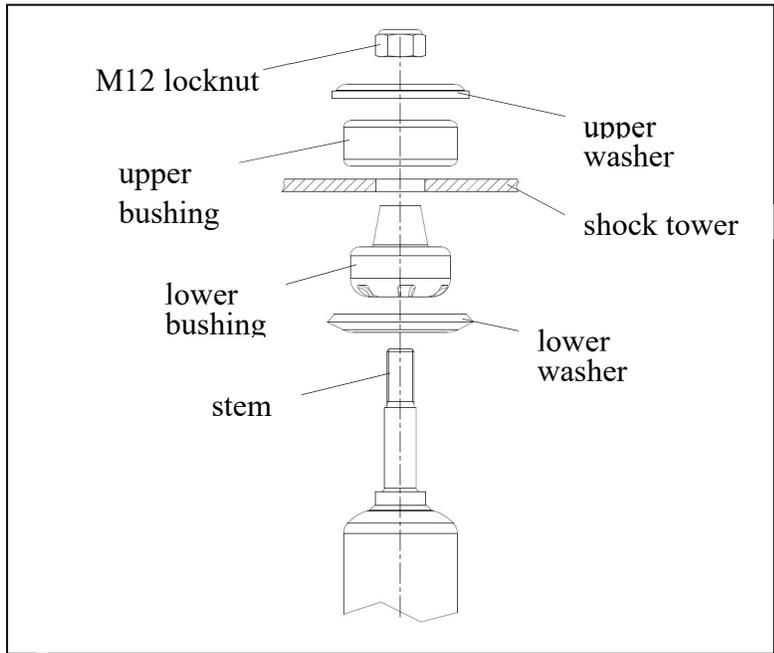

Figure 3
- C.** Using the supplied stem mounting hardware, install the lower washer and bushing on the shock stem then reinstall the shock tower. Please refer to **Figure 3** for the proper order of installation of the stem hardware.